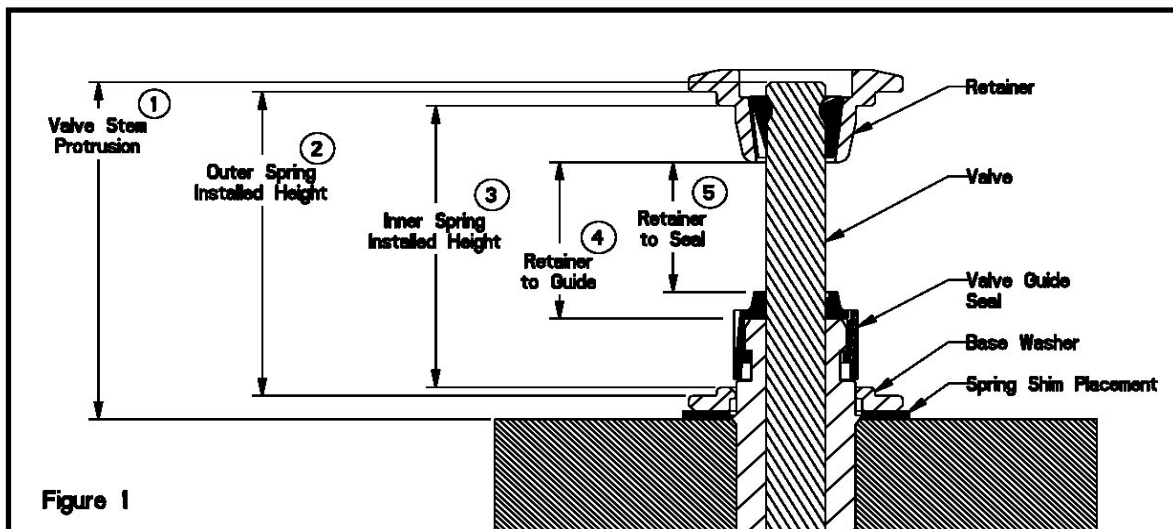

Figure 1
1. Stem Protrusion is measured from the tip of the valve stem to the cylinder head. See Figure 1.
2. Outer spring installed height is measured where the outer spring contacts the retainer and lower component when assembled. See Figure 1.
3. Inner spring installed height is measured where the inner spring contacts the retainer and lower component when assembled. See Figure 1.
4. Retainer to guide clearance is the distance between the valve guide (w/o the seal) and the bottom of the retainer, with the valve in the closed position. See Figure 1 and Notes 3 & 4.